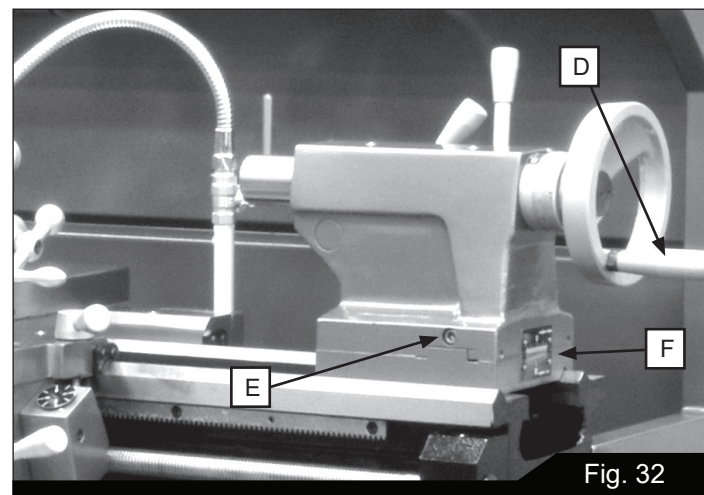

Fig. 32
The tailstock can be offset to cut shallow tapers up to 5° angle. See Figure 32.
3. Align tailstock using the off-set screws at front and back (see E, Figure 32) until tailstock is aligned.